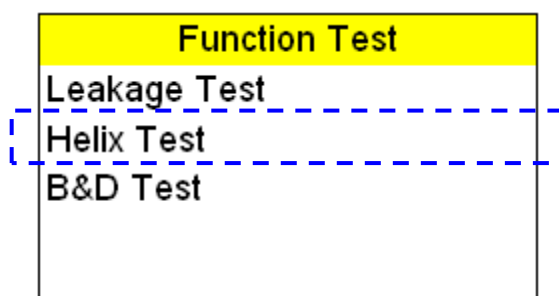

Figure 90
- D. Press  or  button to select Helix Test program (Figure 90).